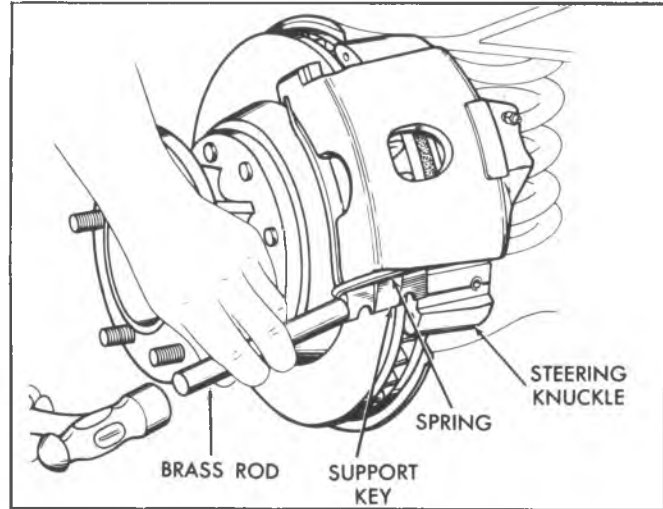

Fig. 5-36—Installing the Caliper Support Key
6. Place the spring over the caliper support key, install the assembly between the steering knuckle (or rear support) and lower caliper groove. Tap into place (until the key retaining screw can be installed) using a brass punch and a light hammer (fig. 5-36).